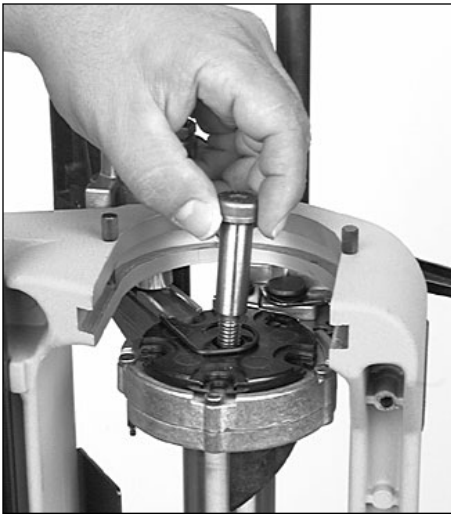

FIG 172
3. Swing the ejector wire back to its original position over the shellplate and insert the shellplate bolt **FIG 172**.